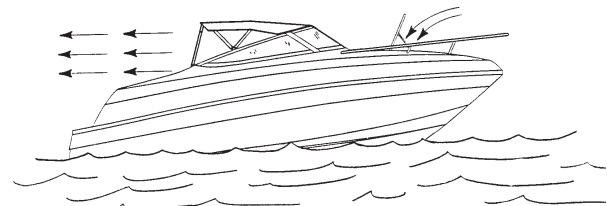

Figure A10: Desired air flow through the boat
4. Opening and closing ports, hatches, doors, and windows may raise or lower CO levels on board a boat. When airflow is moving forward inside the boat, CO may be entering the boat. See Figures A10 and A11.